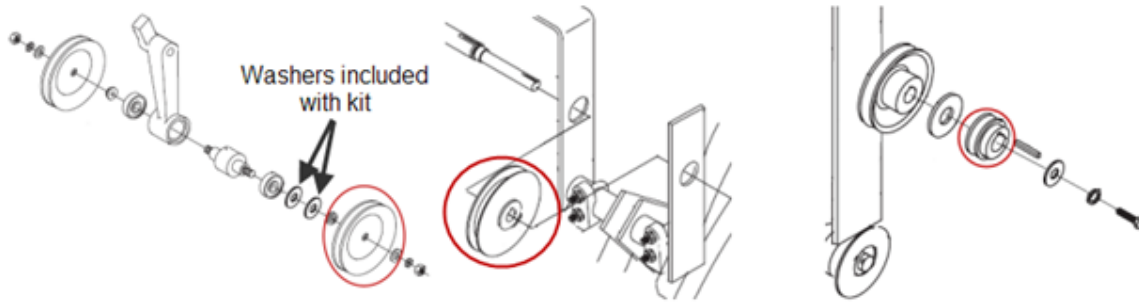

Figure 1
5. Install new pit conveyor drive pulley on pit conveyor drive idler arm placing two washers (included with kit) between idler arm and factory spacer. See *figure 1*.